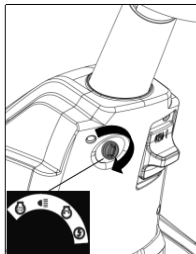

Figure 29
4. Attempt to start the engine, i.e. ignition key in position II (Figure 29).
4. Attempt to start the engine, i.e. ignition key in position II (Fig. 29).